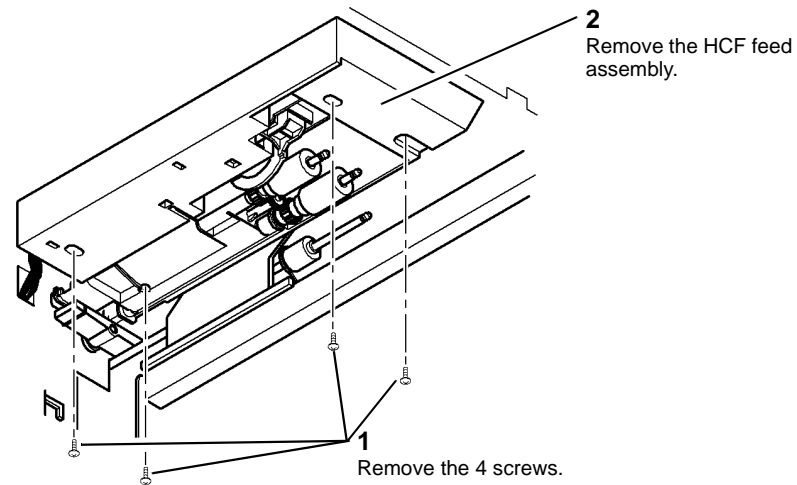

Figure 4 Remove the feed assembly
- Remove the HCF feed assembly, Figure 4.